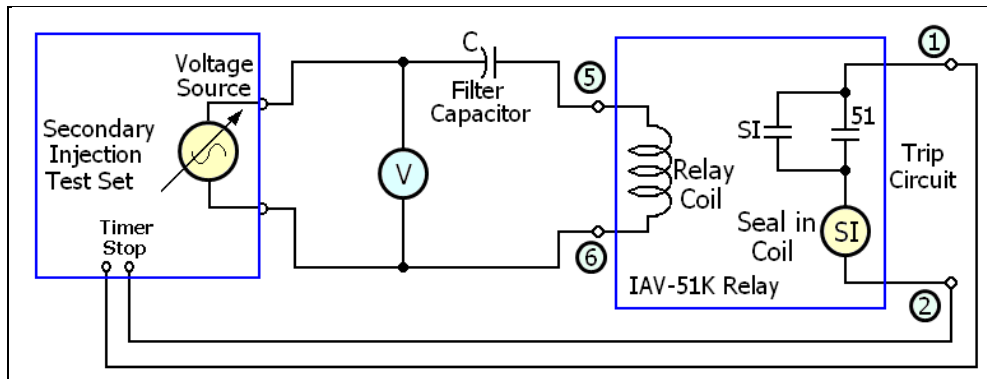

Fig. 1-3
1. Connect the circuit as shown in Fig. 1-3